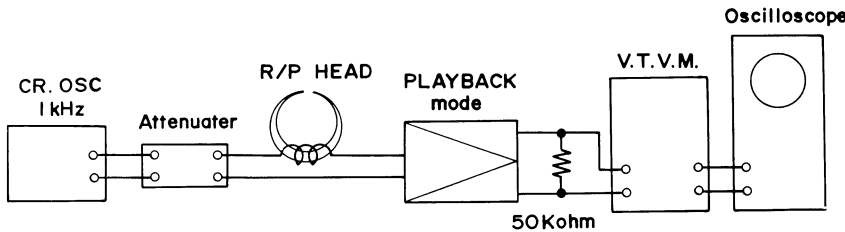

Fig. 23
5. MEASUREMENT OF PLAYBACK AMPLIFIER FREQUENCY CHARACTERISTIC (Refer to Fig. 23)